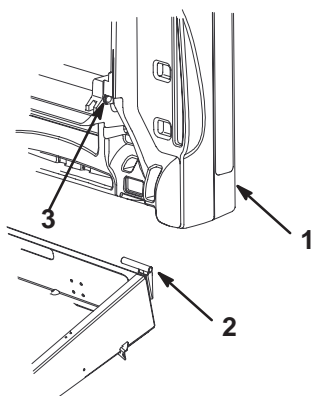

Figure 8
- Slide the cargo box mounting hole onto the pivot bracket (Fig. 8).